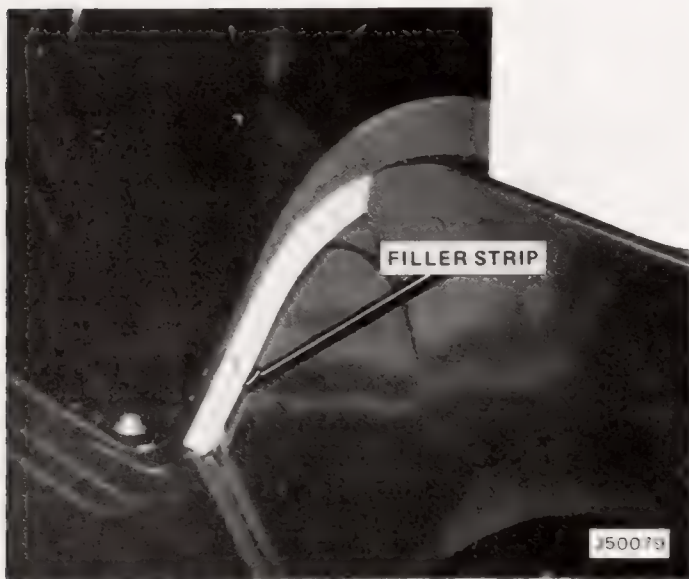

Fig. 2-11 Filler Strip Installed
(1) Position filler strip on LH body panel (fig. 2-11). Use filler strip as template and mark two hole locations.
(2) Drill 13/64-inch holes through body and attach filler strip with self-tapping screws.